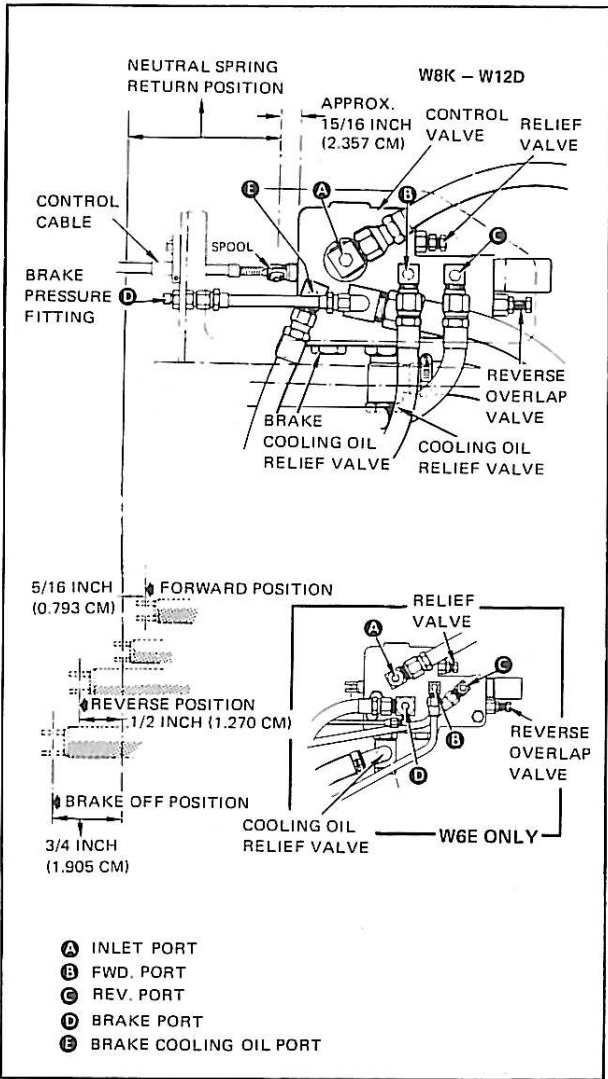

Figure 17. Control Valve Spool Travel Check
## B. CONTROL VALVE SPOOL TRAVEL CHECK. (See Figure 17.)
b. Move the spool into the valve body until it bottoms. This position is FORWARD and should be at 5/16 inch (0.793 cm) travel from NEUTRAL as shown in Figure 17. The pressure at port **B** should be 220 (±10) PSI (15.486 ±0.703 kg/cm2).
c. Move the spool out of the valve body until the first stop is felt. This position is REVERSE and should be at 1/2-inch (1.270 cm) travel from NEUTRAL as shown in Figure 17. The pressure at port **C** should be 220 (±10) PSI (15.486 ±0.703 kg/cm2).
d. Move the spool out of the valve body, past the stop felt in step c, into the detent lock-up position. This position is BRAKE OFF and should be at 3/4-inch (1.905 cm) travel from NEUTRAL as shown in Figure 17. Pressure at fitting **(D)** should be 220 ( $\pm 10$ ) PSI (15.486  $\pm 0.703$  kg/cm2).